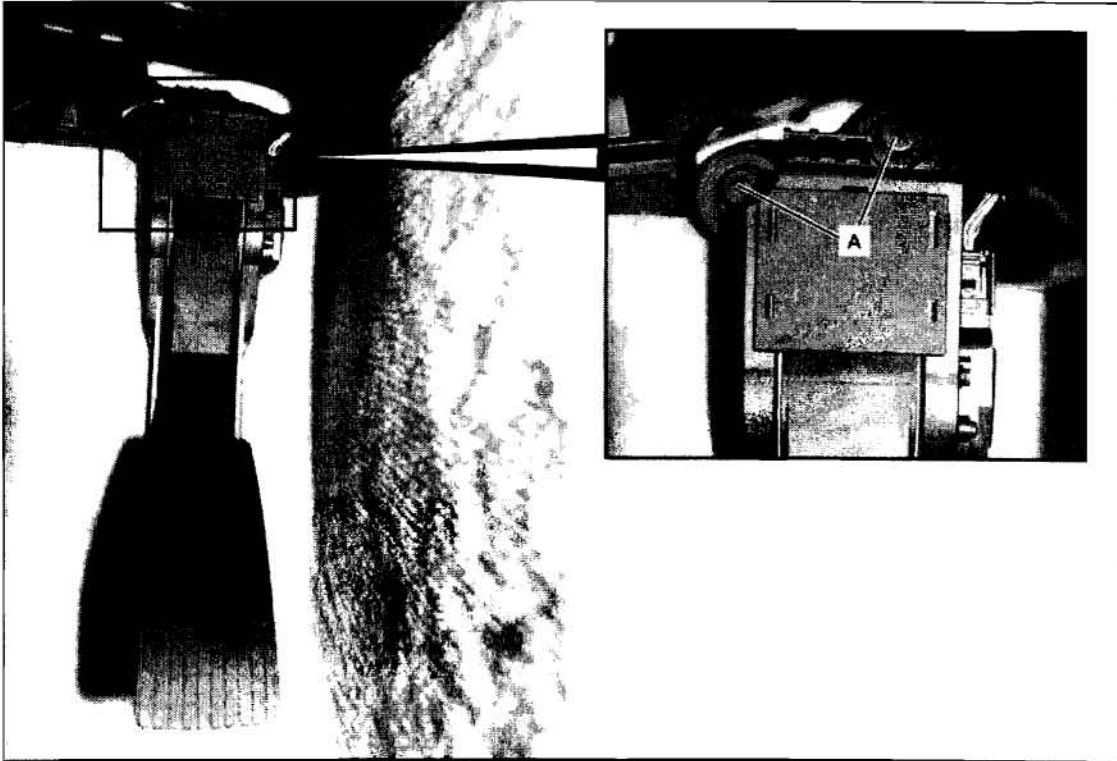

Figure 1
3. Visually check if accelerator pedal nuts (A, Figure 1) have been installed.